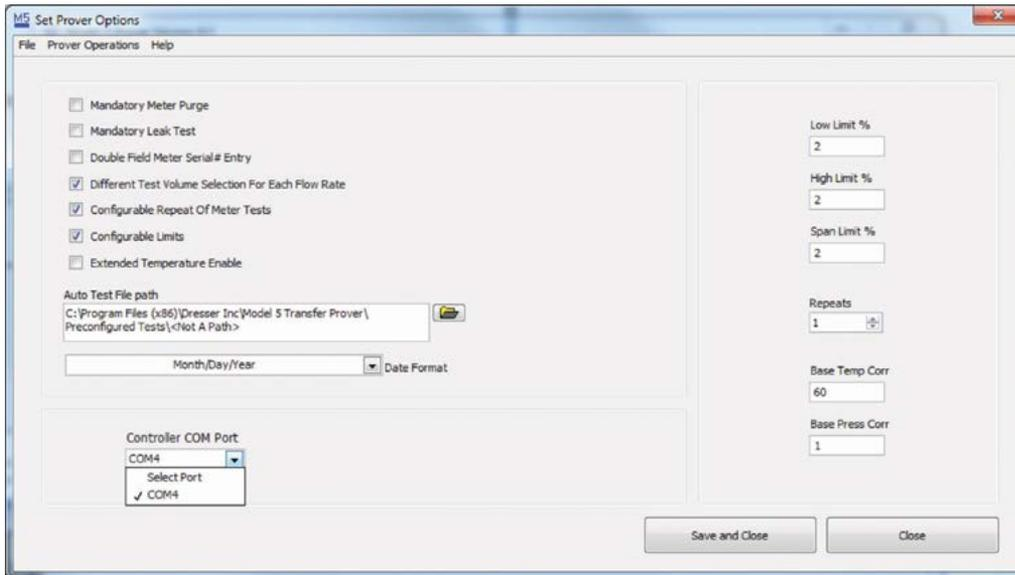

Figure 66: Set Prover Options Screen
- The “Set Prover Options” screen will appear as shown in **Figure 66**. The following functions can be enabled by checking the box to the left of the option. Leaving the box unchecked will disable that function.